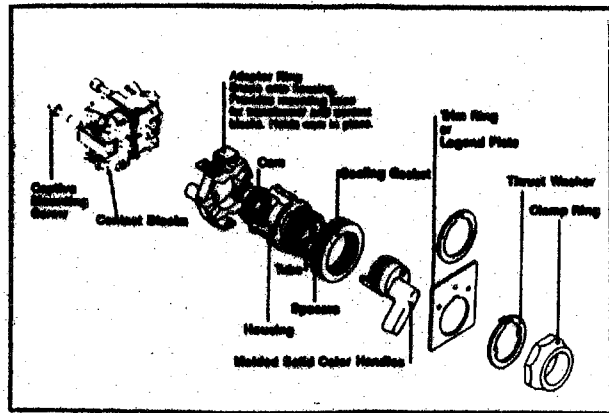

Fig. 4 Maintained Selector Switch
1. Using a screwdriver, pry off the black plastic adaptor from a PB1 operator housing and remove the operating cam as shown in Fig. 4 & 5. (Note - PB2 devices do not have this adaptor because the cam is a snap fit and can be pryed off directly.)